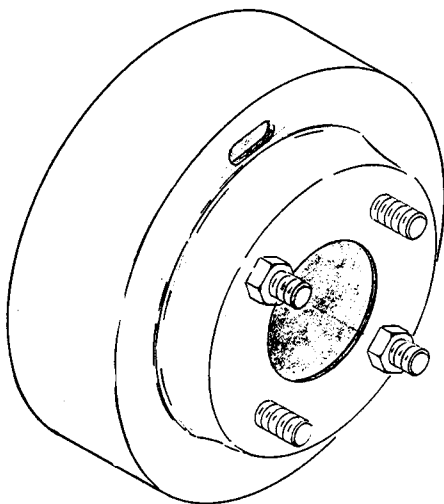

FIG. 1 C
Cars manufactured from February 23, 1976, to March 3, 1977, are equipped with a Dana Corp. type A-12 & D-12 axle and brake assy. This type assy is equipped with a flange hub, formed on the end of the axle shaft and a stamped metal brake drum. (See fig. 1-C for identification of this type unit.) (Repair procedures for A-12 & D-12 are identical and are listed as A-12 type.)
2. Remove wheels to expose opening in drum for adjusting tool and reinstall two lug nuts (opposite each other) finger tight to secure drum to hub. (See Fig. 1 C) (Not Necessary on S-12 type.)